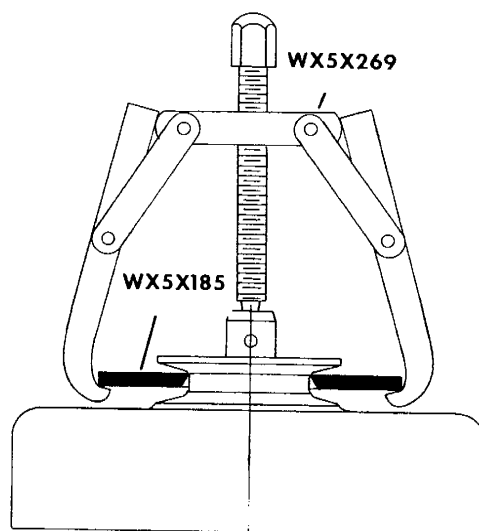

Figure 9
3. For help in removing stubborn clutch drums, use horseshoe collar, WX5X185, as shown in Figure 9. Use of the collar prevents or reduces damage to the pulley portion of the drum.